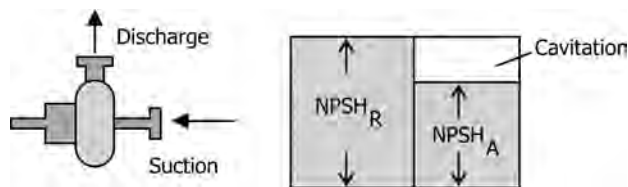

FIGURE 5.12 Illustrative diagram for cavitation conditions.
- When there is insufficient NPSH. Figure 5.12 is illustrative of cavitation conditions due to insufficient $NPSH_A$.